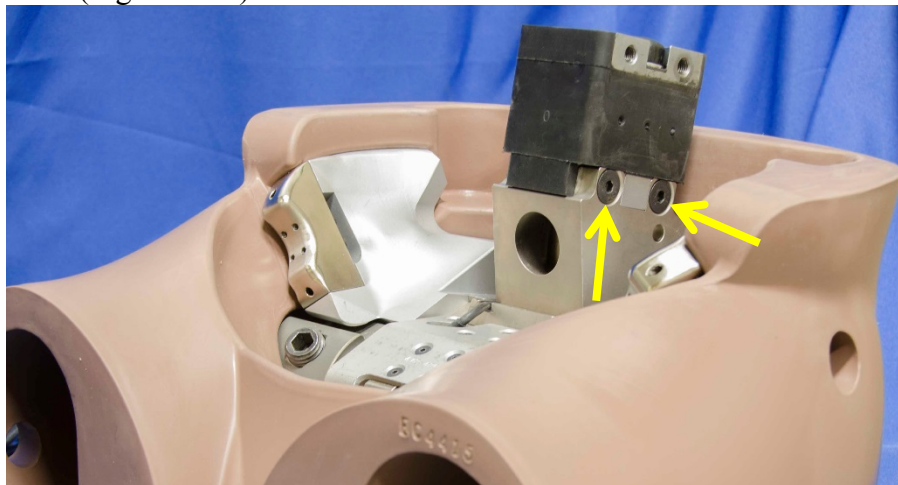

Figure 5-13. Attach lumbar flex joint to pelvis/lumbar mounting block
- 5.2.2.7 Install the Lumbar Flex Joint Assembly (472-3746) to the Pelvis/Lumbar Mounting Block using four M8 x 1.25 x 20 FHCS, two on each side of the Flex Joint (Figure 5-13).